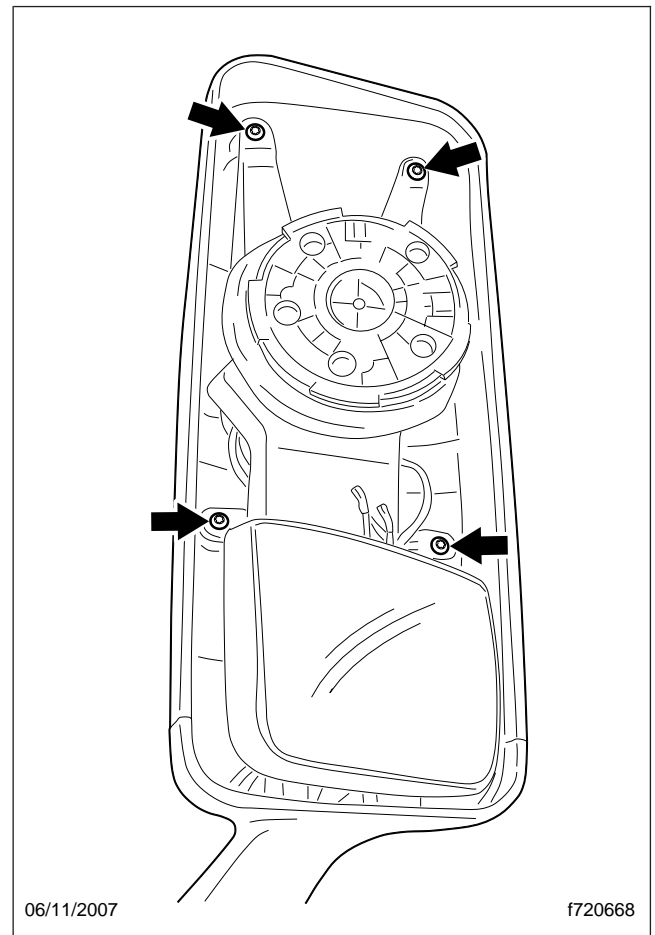

Fig. 4, Back Cover Screws
6. Remove the four screws that attach the back cover to the mirror arm; see Fig. 4.